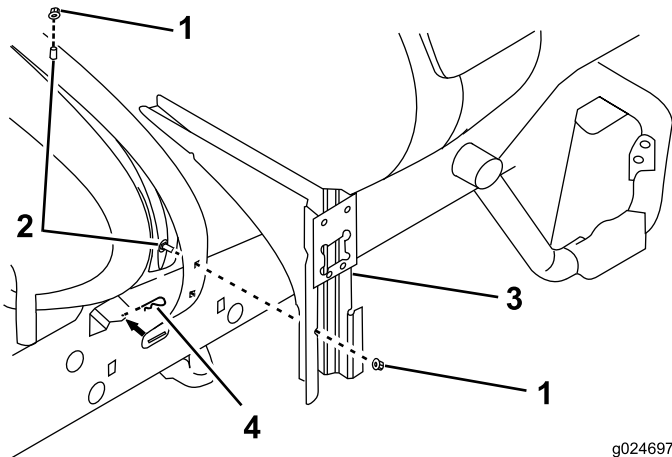

Figure 10
2. Install 2 carriage bolts to the right hand tank strap (Figure 10).
4. Attach the valve mount to the previously installed carriage bolts using 2 flange nuts (Figure 10).